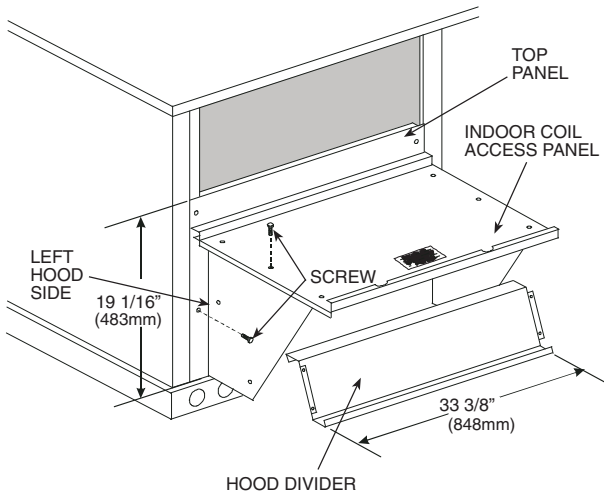
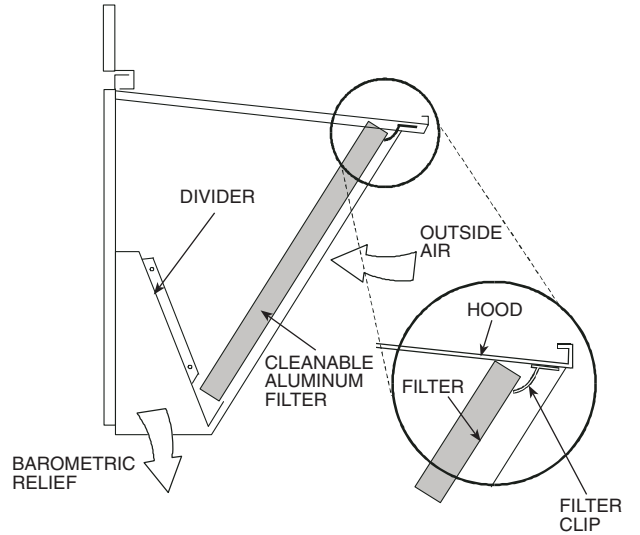

Fig. 11 - Economizer Hood Construction
Fig. 12 - Economizer Filter Installation
- Swing out indoor coil access panel and insert the hood sides under the panel (hood top). Use the screws provided to attach the hood sides to the hood top. Use screws provided to attach the hood sides to the unit. See Fig. 11.
- Insert the hood divider between the hood sides. See Fig. 11 and Fig. 12. Secure hood divider with 2 screws on each hood side. The hood divider is also used as the bottom filter rack for the aluminum filter.
- Open the filter clips which are located underneath the hood top. Insert the aluminum filter into the bottom filter rack (hood divider). Push the filter into position past the open filter clips. Close the filter clips to lock the filter into place. See Fig. 12.